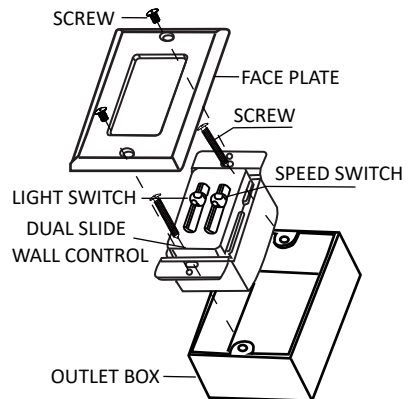

Fig. 2
8. Secure the wall-mounted control to the outlet box with two screws provided. (- Fig. 2)